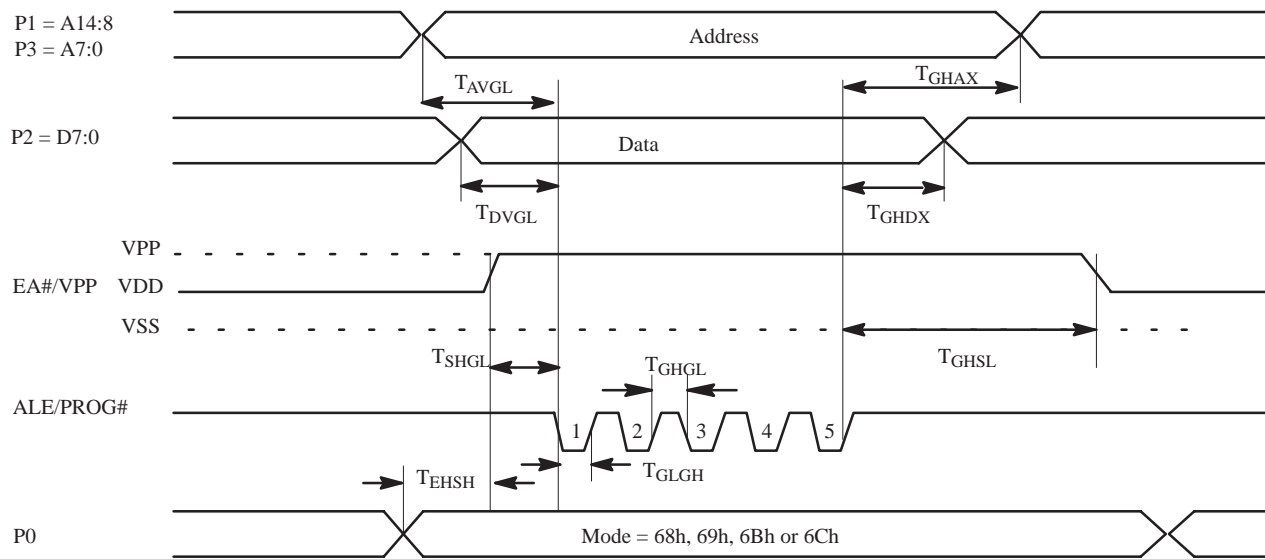

Figure 3 **Timings for EPROM Programming**
1. The ALE/PROG# pulse waveform is shown in Figure 3.